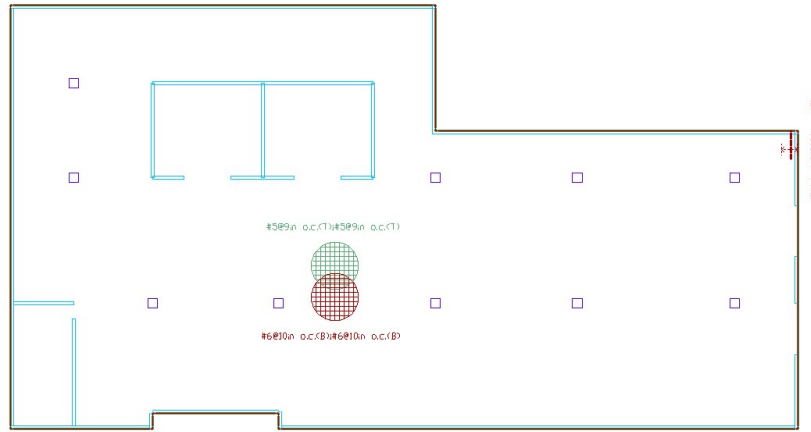

FIGURE 6.8-13 REBAR IN EXCESS OF BASE REBAR
- After introducing new base reinforcing, the slab needs the design sections to be redesigned and the reinforcement layout must be generated again. The program will produce a new rebar drawing and display any additional rebar to the base reinforcing where required as shown in **Figure 6.8-13**.